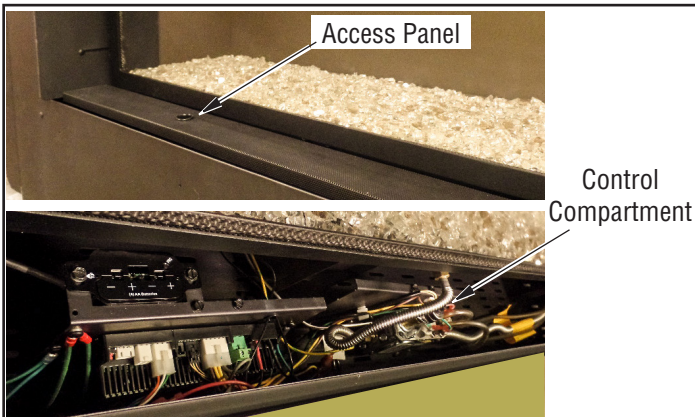

Figure 37 - Accessing The Control Compartment
- Remove the control compartment access panel (**Figure 37**).